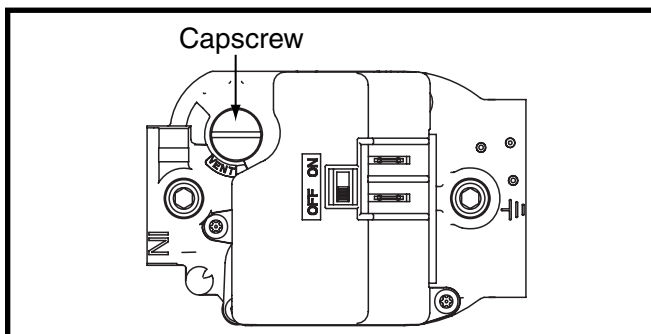

Figure 17. Regulator Capscrew
7. Remove the regulator capscrew from the INLET side of the regulator. See (Figure 17, (page 20)).